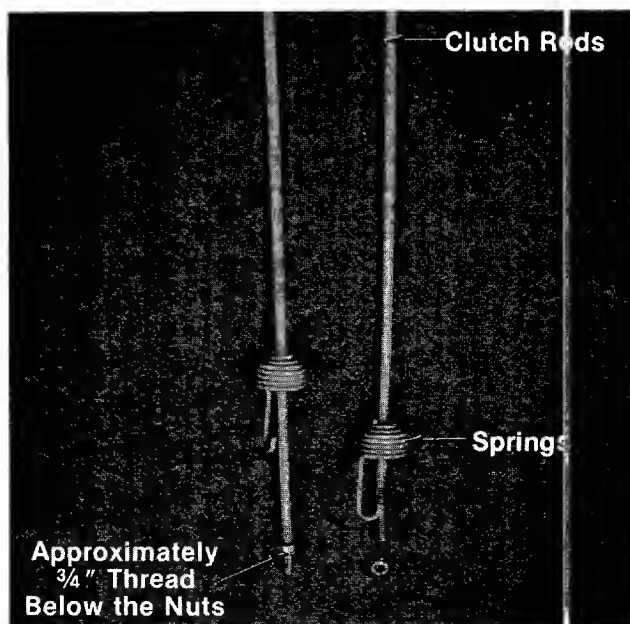

FIGURE 9.
1. Slide the springs up the clutch rods. Thread the nuts onto the rods until approximately $\frac{3}{4}$ " of threads extend below the nuts. See figure 9.